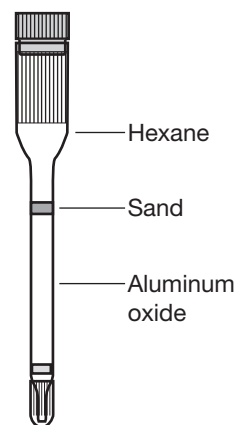

Figure 1.
6. Carefully pour a small amount of sand into the column so it forms a 2-mm layer on top of the aluminum oxide (see Figure 1).